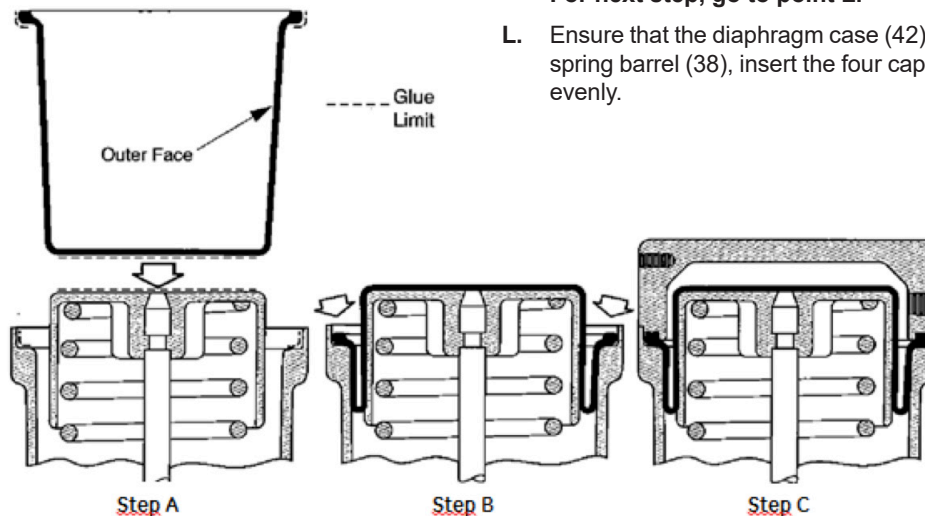

Figure 7 - Method 2
Note: The inner face of the diaphragm in contact with the piston is marked with the inscription "piston side"; be careful to keep coating of the Neoprene with limits corresponding to the flat part of the piston (Figure 7-Method 2, Step A).
- H-2. Center and adhere the diaphragm (40) on the piston (43) (Figure 7- Method 2, Step A).